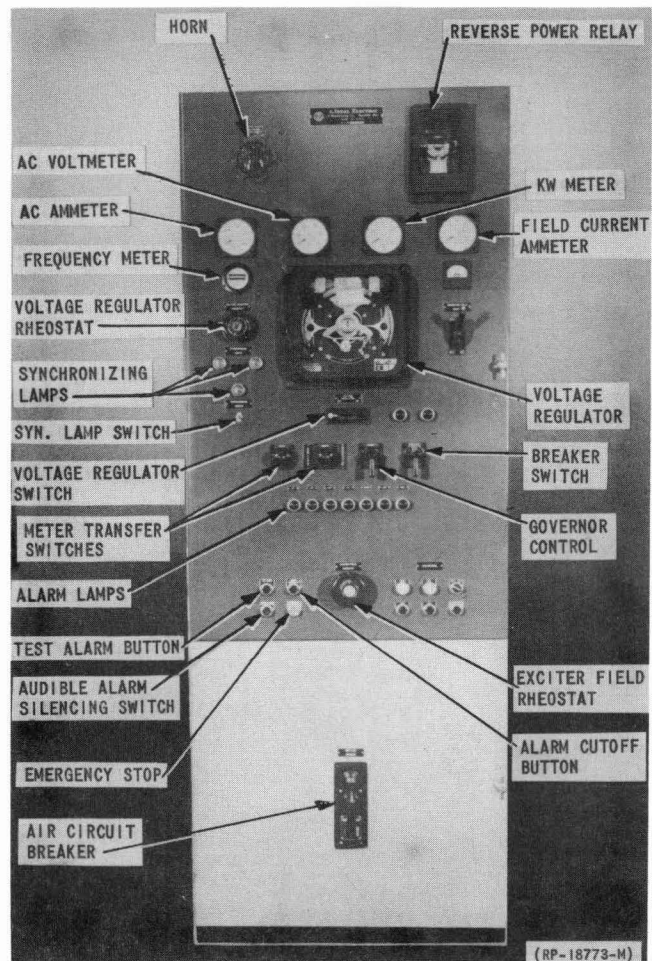

FIG. 4 TYPICAL CONTROL CABINET FOR MANUAL SET
4.11 Layout mounting area for cabinet and install, using job drawings and information in Handbook 30 on floor layout and in Handbook 18 on leveling and fastening to floor. Cabinets are shown in Figures 4 and 5.